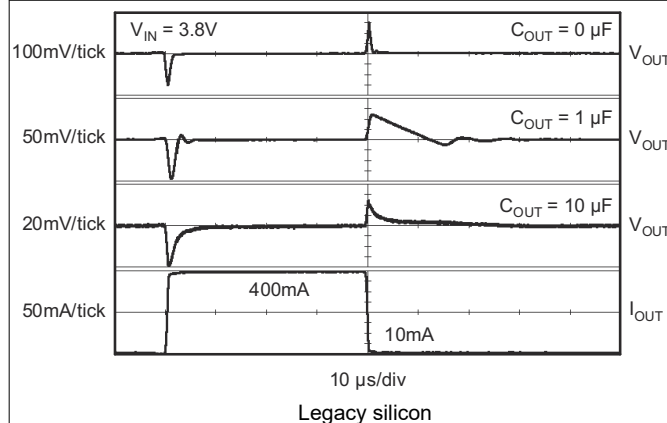

Figure 5-35. TPS73633 Load Transient Response
The enable pin (EN) is active high and is compatible with standard TTL-CMOS levels. V_{EN} below 0.5 V (max) turns the regulator off and drops the GND pin current to approximately 10 nA. When EN is used to shutdown the regulator, all charge is removed from the pass transistor gate, and the output ramps back up to a regulated V_{OUT} (see Figure 5-35).